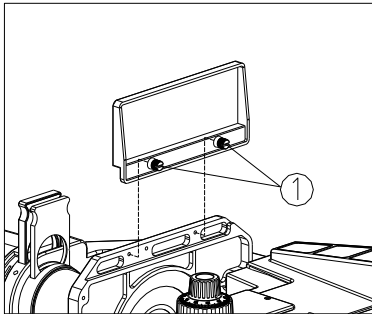

Fig. 8
(1) Assemble the stage extension board
Screw down the lock-screw① on the stage extension board, then screw it on the horizontal stage from the right or left bottom, and use small tools like coins to screw it down until the board is fixed firmly.(See Fig.8)
(2) Assemble the attachable mechanical stage